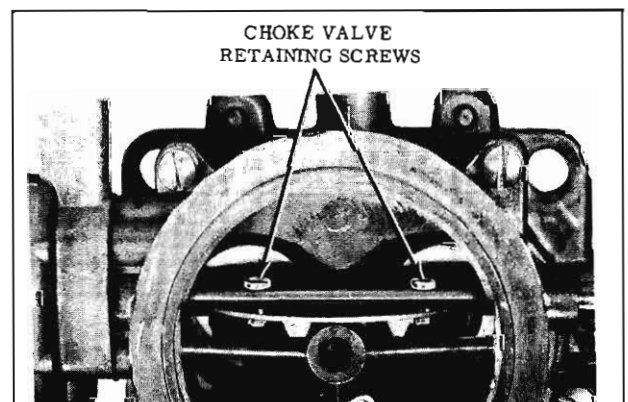

Fig. 4-134 Choke Valve and Shaft
10. Remove two choke valve retaining screws and discard (file off staked ends). Remove choke valve. (Fig. 4-134)